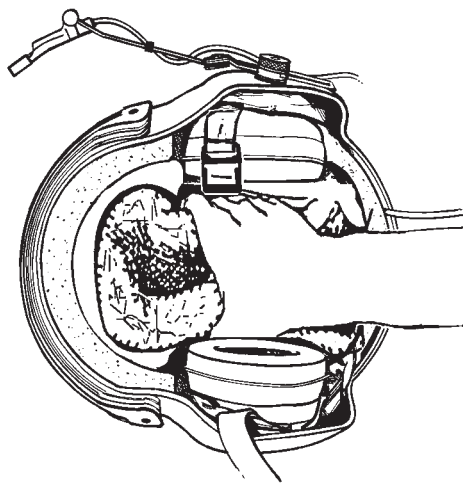

Figure 4-7. Removing TPL
2. Referring to Figure 4-7, remove the TPL from the helmet.